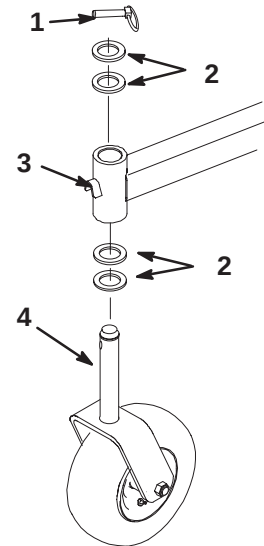

Figure 66
2. Remove the locking pin and spacer(s) from the top of the caster wheel fork (Fig. 66).
7. Slide the caster wheel fork through the bushings in the mounting tube. Replace the spacers(s) onto the fork and secure with the retaining ring (Fig. 66).